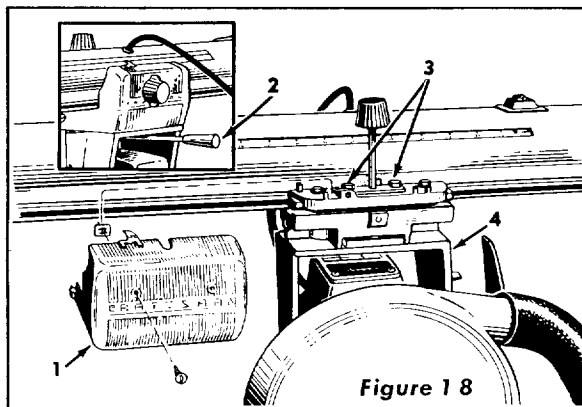

Figure 18
1. Remove left hand carriage cover (Item 1, figure 18).
2. Loosen yoke clamp handle (Item 2, figure 18) by pulling the handle horizontally toward the front of the saw.
3. Slightly loosen the two hex head machine screws (Item 3, figure 18).
4. Rotate the yoke (Item 4, figure 18) very slightly opposite to the direction of heel. (For left heel, rotate yoke clockwise; for right heel rotate yoke counterclockwise.)
5. Retighten the two hex head machine screws (Item 3, figure 18) and relock the yoke by pushing the yoke clamp handle toward the rear of the saw.